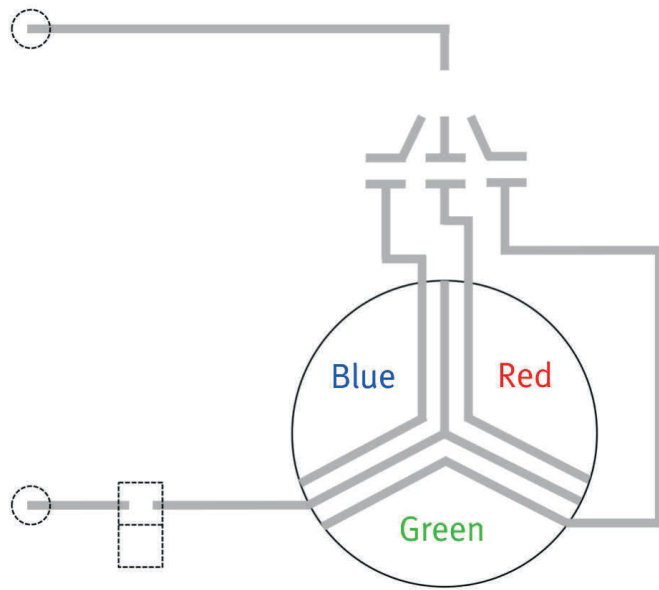

Figure 16: Template for “Color mixing with RGB LEDs”
- Secure the template copy (see figure 16) with the 4 magnets.